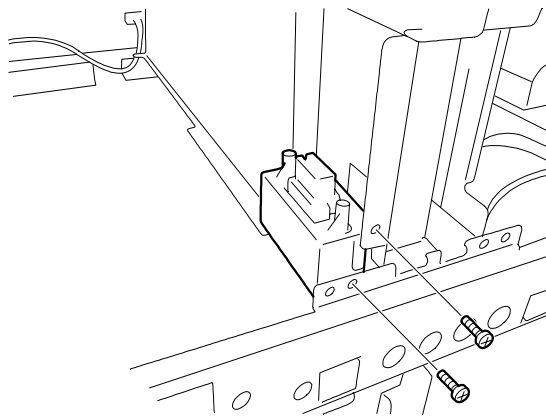

Figure 4-17. Removing the Front Fan Module Connector Screws
7. Remove the two screws securing the front fan module connector to the BSU chassis so that it can be relocated later, see Figure 4-17.